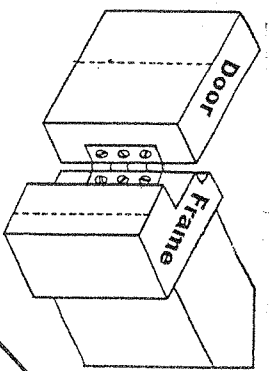
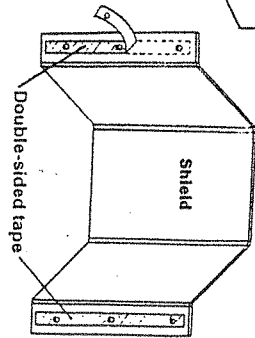

Fig 4
Fig 5
3. Wedge open the door (fig.4). Remove the adhesive tape cover strip from one side only of the DigitSafe (fig.5) and align this edge with the guide line on the frame. Once the DigitSafe is in position, press firmly into place to ensure maximum adhesion.